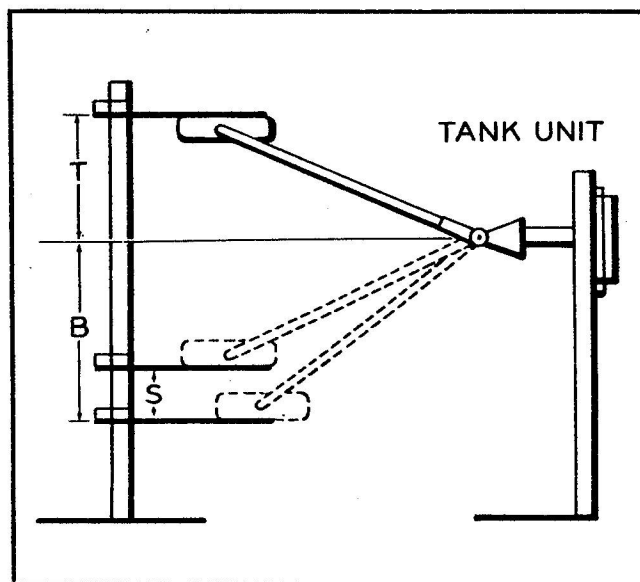

Figure 3-2. Set-Up Stand Diagram Giving Top and Bottom Float Arm Stop Settings and Warning Switch Setting
3-6. Set plates on set-up stand at dimensions given in applicable set-up stand diagram on Specific Data Sheets (see figure 3-2). In most cases, dimensions are given in tabular form, with dimension "T" representing the setting of the top float arm stop measured upward from the pivot point, and dimension "B" representing the setting of the bottom float arm stop measured downward from the pivot point.
- a. Allow float to rest on plate representing bottom float arm stop setting (dimension "B", figure 3-2).
- c. Adjust lower portion of float arm stop assembly (32) so it will prevent further downward motion of float arm when float touches lower plate on set-up stand.
e. Raise float to plate representing top float arm stop setting (dimension "T", figure 3-2).
b. Allow float to rest on plate representing bottom float arm stop setting (dimension "B," figure 3-2).
c. Position lower float arm stop (41) so it will prevent further downward motion of float arm.
d. Raise float to plate representing top float arm stop setting (dimension "T," figure 3-2).
3-25. If the tank unit contains a warning switch assembly (21, figure 2-9), the set-up stand diagram (see figure 3-2) will show a dimension "S." This is the position at which the warning switch assembly actuates, turning on a warning light, bell, or other equipment. A table on the Specific Data Sheet gives the value of dimension "S" for each tank unit containing a warning switch.